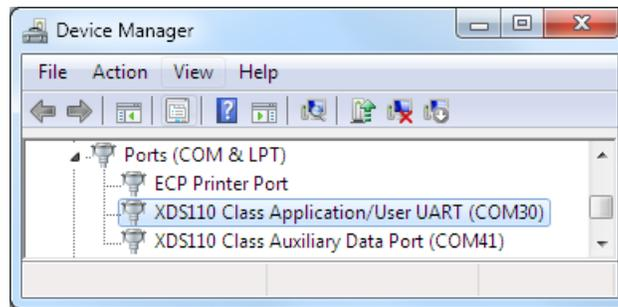

Figure 6. Determine COM Port Number Using Device Manager on Windows
4. Launch a serial terminal application and connect to the COM port for "XDS110 Class Application/User UART" at 115200 baud rate (see Figure 6 and Figure 7).